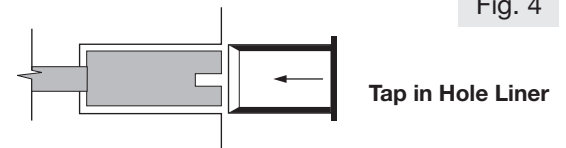

Fig. 4
9. Lightly tap hole liners into place. (Fig. 4) Insert plugs with foam seals.